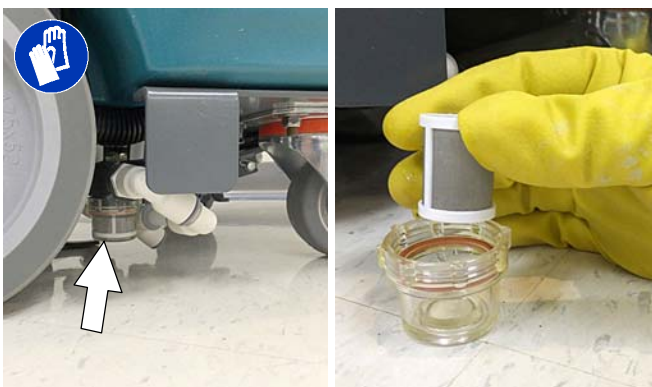

FIG. 65
1. Drain solution tank. Remove the solution tank filter and clean screen (Figure 65). Turn the filter bowl counter-clockwise to remove.